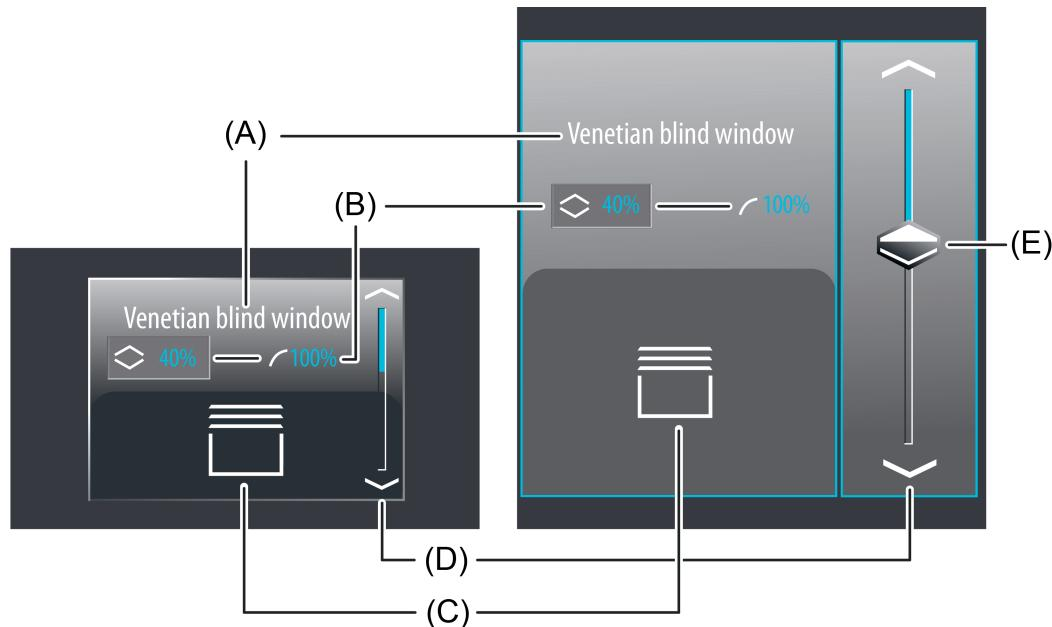

Figure 28: Example of an operating and display element of the function "Venetian blind positioning"
In the selection operation, a slider (E) is also available in addition to the sensor surfaces \wedge / \vee or \langle / \rangle for positioning in the end positions or for value adjustment (figure 28). It is possible to specify positions for slat or blind/shutter heights directly with graphic support using the slider via the status values depending on the selection. For this purpose, the slider can be set by finger pressure or continuously moved. To set the slider, you must touch the slider area at the required position with your finger. The slider then jumps immediately to the required position. At the same time, the device transmits the position value specified thus as a setting to the bus. Alternatively, you can move the slider continuously in the slider area with your finger. During the movement of the slider, the device transmits values according to the specified value transmitter level of 10 % time-controlled and gradually. As a result, the slat or blind/shutter position of the activated system already changes during the slider adjustment, for example, whereby in the ideal case the operator immediately receives a visual feedback on the drive movement and position. The time that must elapse before the device outputs a new position level during an adjustment is preset to 600 ms. Thus, the time of the value adjustment and the value transmitter level affect the control speed of the slider.
The display area contains different display elements (figure 28) that are influenced by parameters. A name can be assigned to each KNX function in the configuration software (A). This text name is centred in the display element for display whereby controllable KNX functions are identified for the user (e.g. "Venetian blind window"). In addition, two status values (B) for blind/shutter height and slat position can be displayed below the name, which display position values in plain text ("0...100 %") either depending on the object values of the position feedbacks of the Venetian blind actuator addressed or alternatively directly depending on the position value presetting of the operating element. After a device reset, the display shows "---%" until feedback object values of the status values are received or position values are specified.